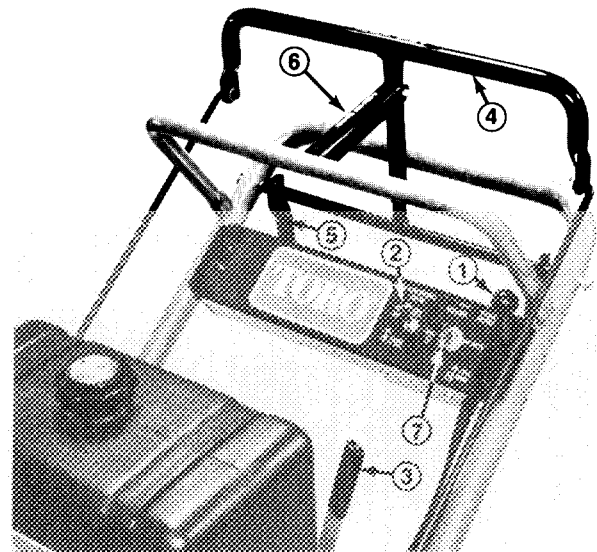

Figure 8
**Throttle Control (Fig. 8)** — The throttle control has three positions: CHOKE, FAST and SLOW.
**Deck Engagement Switch (Fig. 8)** — Toggle switch releases blade brake and engages electromagnetic clutch to drive deck pulleys.
**Gear Shift Lever (Fig. 8)** — Transmission has four forward speeds, neutral and reverse, and has an in-line shift pattern. Do not shift while unit is moving, as transmission damage may occur.
**Upper Control Bar (Fig. 8)** — Shift to desired gear and push forward on control bar to engage forward traction operation and pull back to brake. Pull right side of control bar to turn right and left side to turn left.
**Lower Control Bar (Fig. 8)** — Shift transmission to reverse and pull rearward on lower control bar to engage rearward traction operation.
**Parking Brake Lever (Fig. 8)** — Pull back on upper control bar and swing brake lever up against the upper handle.
**Ignition Switch (Fig. 8)** — Key switch is used in conjunction with recoil starter. Switch has two positions: RUN and OFF.